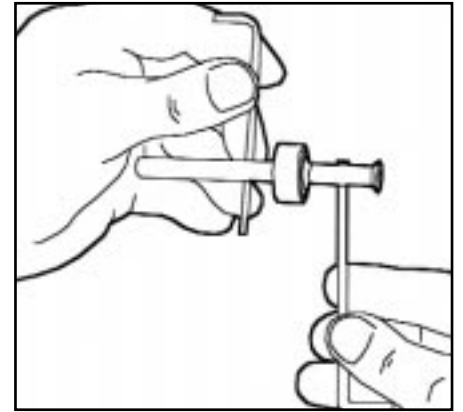

Figure 22
16. P04-6S/8S: Pull out the middle and lower poppet stems, and poppet body. The poppet stem connector bolt will remain in one of the stems. (Fig.22)